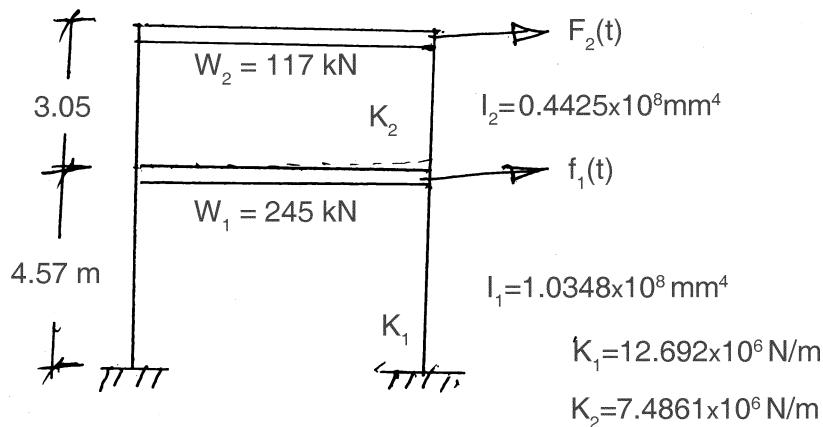

Figure 2. Q. 4)
4. A two storey frame subjected to forces as shown in figure 2. Determine the maximum floor displacement. Assume damping $c = 2\%$. 18